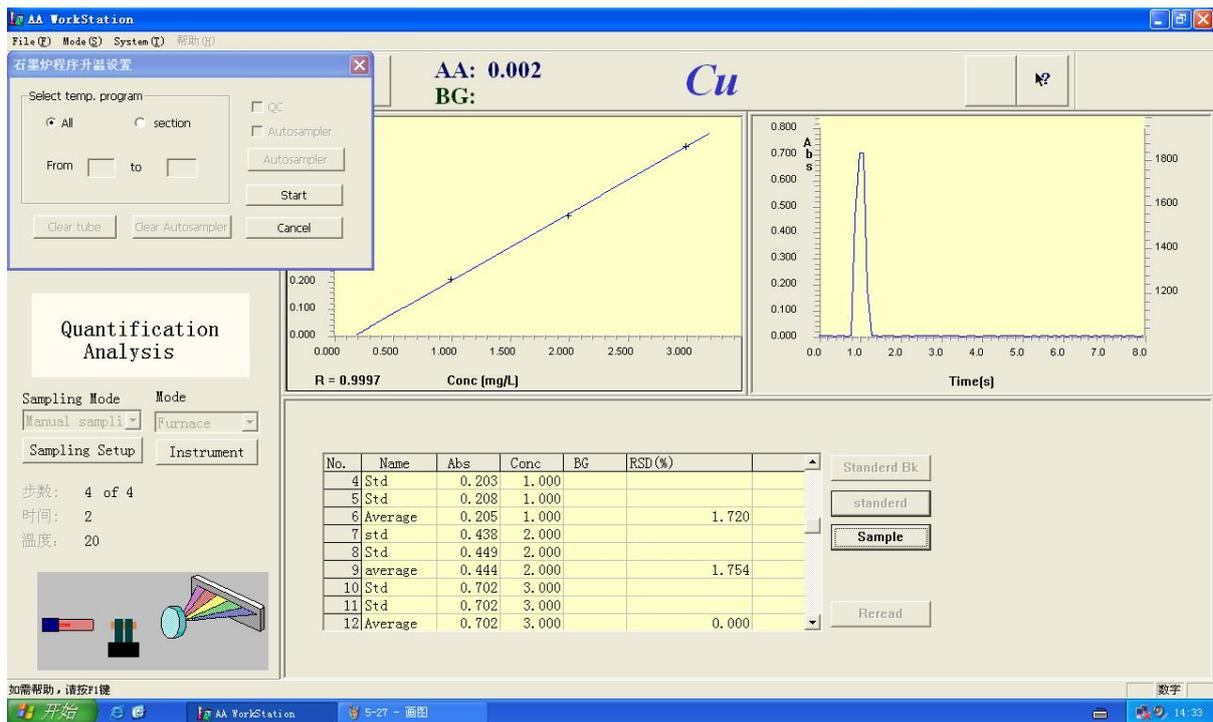

Figure 5-29
20. By the above operation, test another two standard samples, Figure 5-29